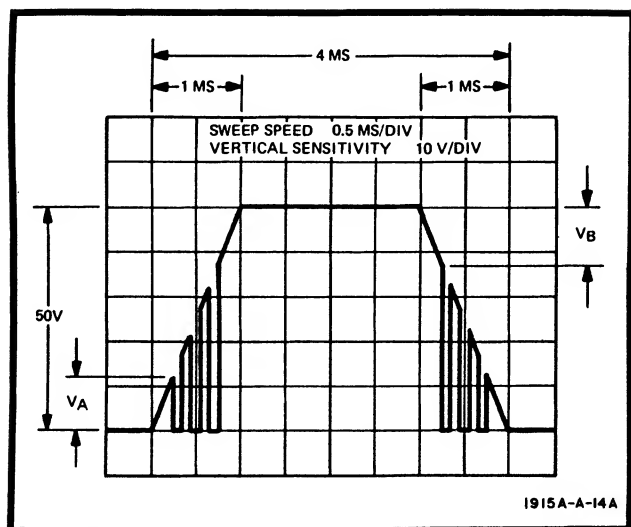

Figure 5-19. Positive Overload Adjustment Pulse
j. Set Model 1915A WIDTH vernier, LEADING EDGE and TRAILING EDGE controls to obtain the display shown in Figure 5-19.
n. Adjust A4R88 (pos power detector balance adj) and A4R85 (+PD) until V_A and V_B correspond to the values obtained in step m. (see Figure 5-19.)